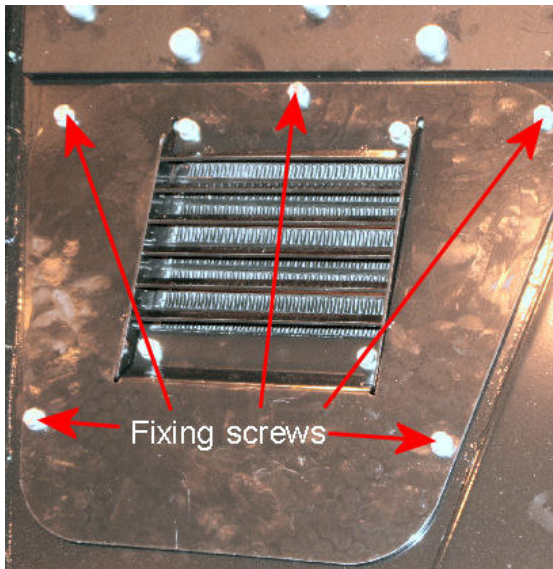

Fig 5-14 Fan fixing screws
3. Remove the five screws securing the fan assembly to the frame (Fig 5-14) and extract the fan assembly from the frame.